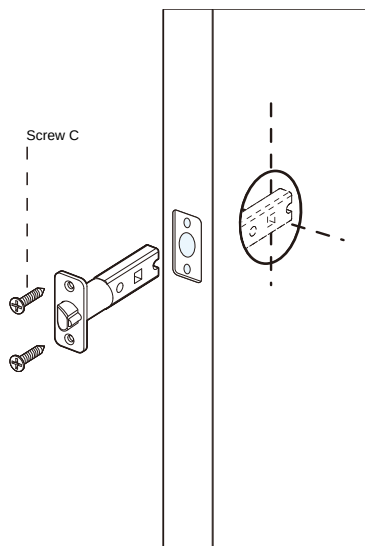

Fig. 1
2. Tighten and secure the mortise (as shown in Fig. 1 and Fig. 2 below).